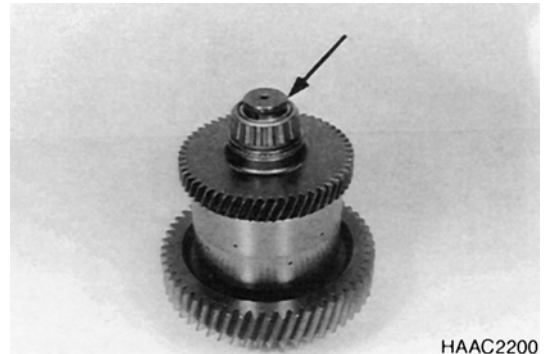
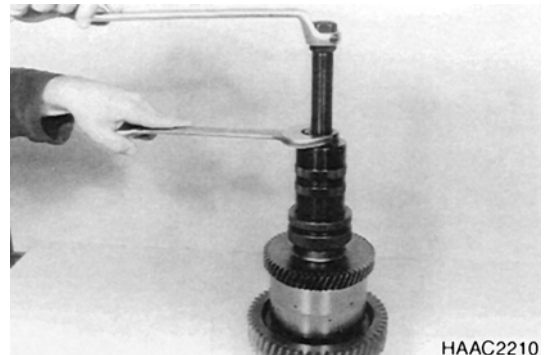

Figure 141
Figure 142
1. The disassembly of the clutches K1 and K2 is analogous. Squeeze rectangular ring (Figure 141) out.
3. Remove opposite tapered roller bearing accordingly, see Figure 141 and Figure 142.